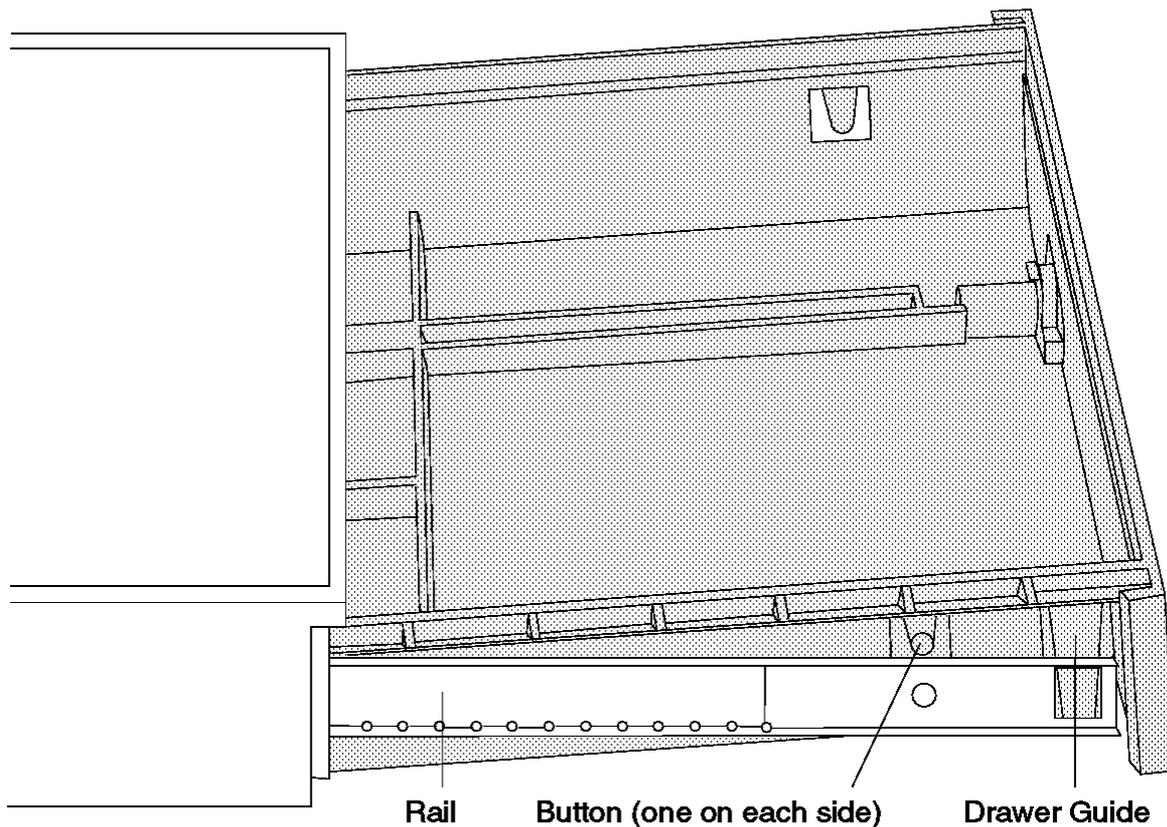

Figure 2-6. Removing and Replacing the Drawer
7. Position the rear of the drawer into slides such that the drawer guide on each side of the drawer aligns with the corresponding opening in each slide. See Figure 2-6.